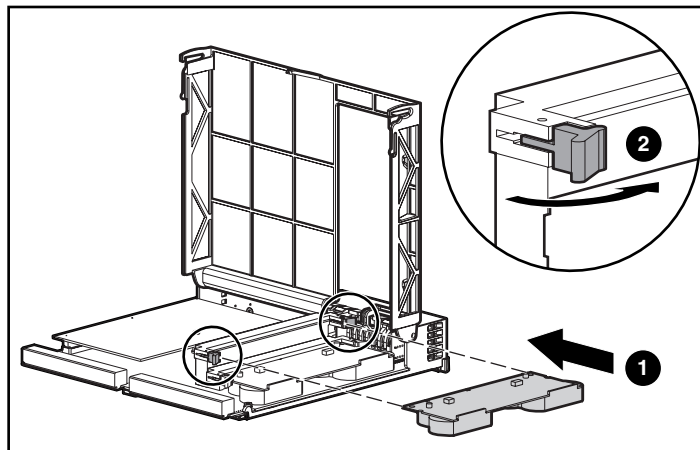

Figure 7: Installing the cache module
6. Install the new MSA1000 Controller cache by sliding the new MSA1000 Controller cache into the controller ❶. Be sure the side latches are fully engaged ❷. See Figure 7.